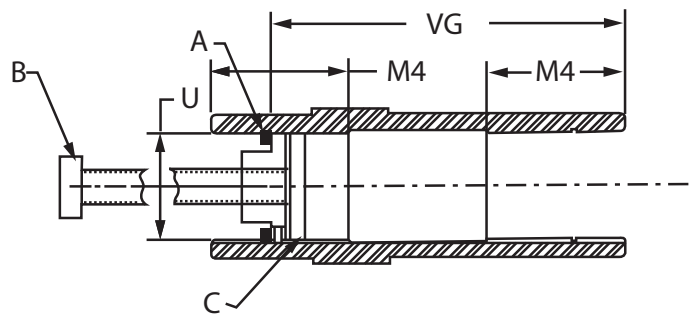

Figure 6 – Disassembly Arrangement
Prior to disassembly, the dust cap, retaining bolt, spring washer, keeper plate and retaining ring must be removed. For ease of disassembly, it is recommended that the following tools be made and used as described: The round keyed nut (A) is inserted into the free space between the retaining ring in the gear unit's hollow shaft and the end of the machine's drive shaft. The removal bolt (B) is screwed into the nut (A) which presses a disk (C) against the machine's drive shaft. The resulting force pushes the gearbox off of the machine's drive shaft. Reference Figure 6 for the disassembly arrangement.